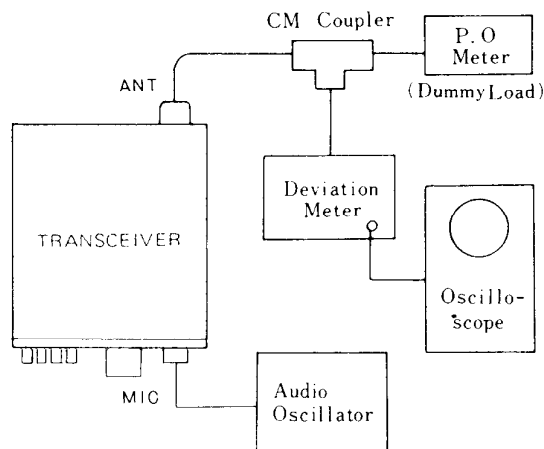

Figure 3
- a) Refer to Fig. 3, and set up the transceiver and test equipment as shown.
- a) Set up the test equipment as specified in Fig. 3.